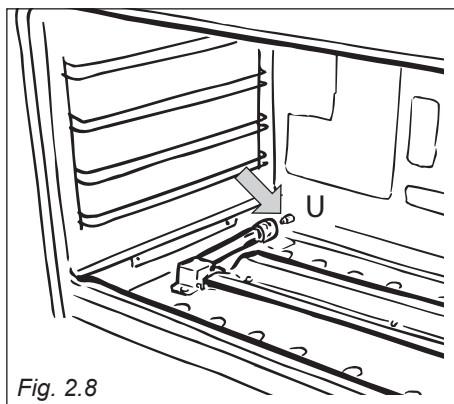

Fig. 2.8
- Withdraw the burner in the manner shown in figure 2.8, and rest it inside the oven. Take care not to damage the wire to the ignition electrode and the safety valve probe.
- Using a 10 mm box spanner, unscrew the injector "U" (indicated by the arrow in fig. 2.8) and replace with a new injector selected in accordance with the "Table for the choice of the injectors"; then replace the burner repeating the above steps in reverse order.